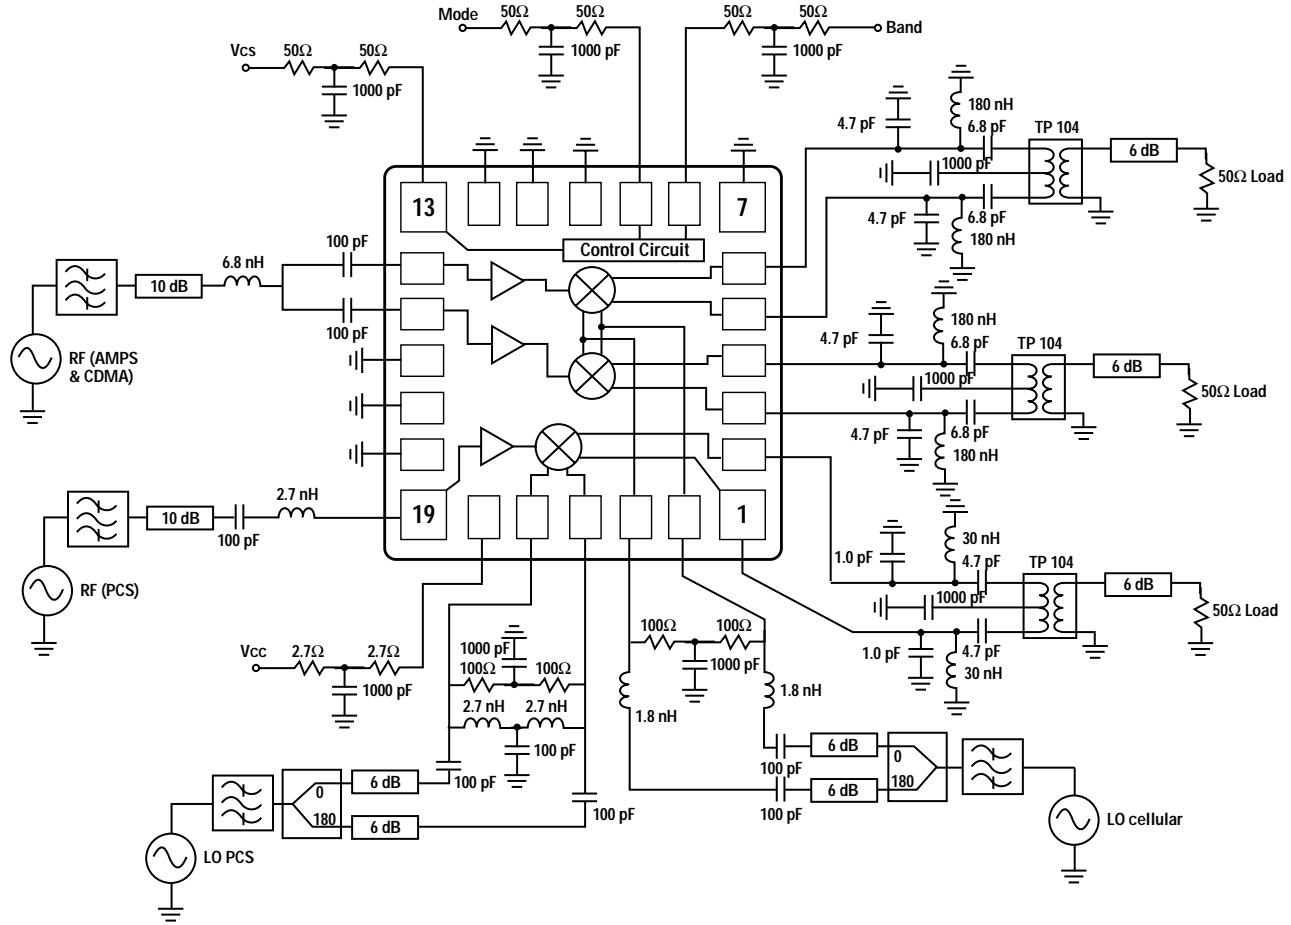

Figure 46. HPMX-7102 Test Diagram.
1. Impedance data measured with all other ports matched as shown in Figure 46.